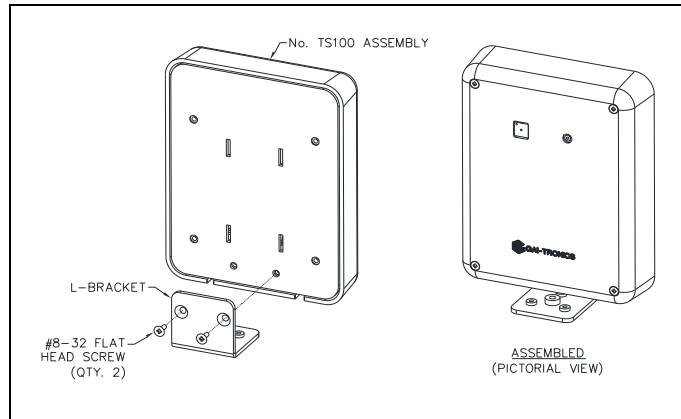

Figure 8. L-Bracket Attachment for Tripod/Microphone Stand Mounting
- Secure the L-bracket to the mounting plate using the two included #8-32 flat head machine screws (see Figure 8).